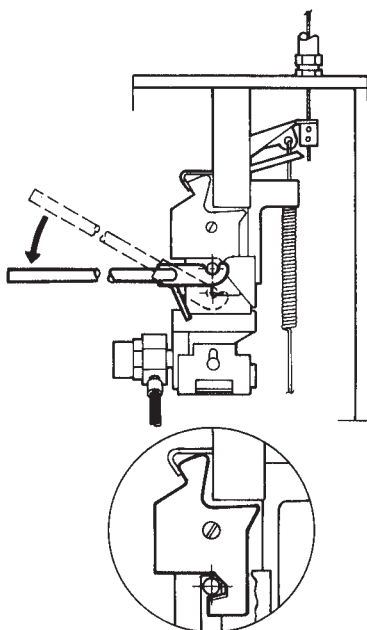

FIGURE 15
- ▶ 22. Cock the regulated release mechanism using cocking lever (Part No. 14995 or 435603). See Figure 15.